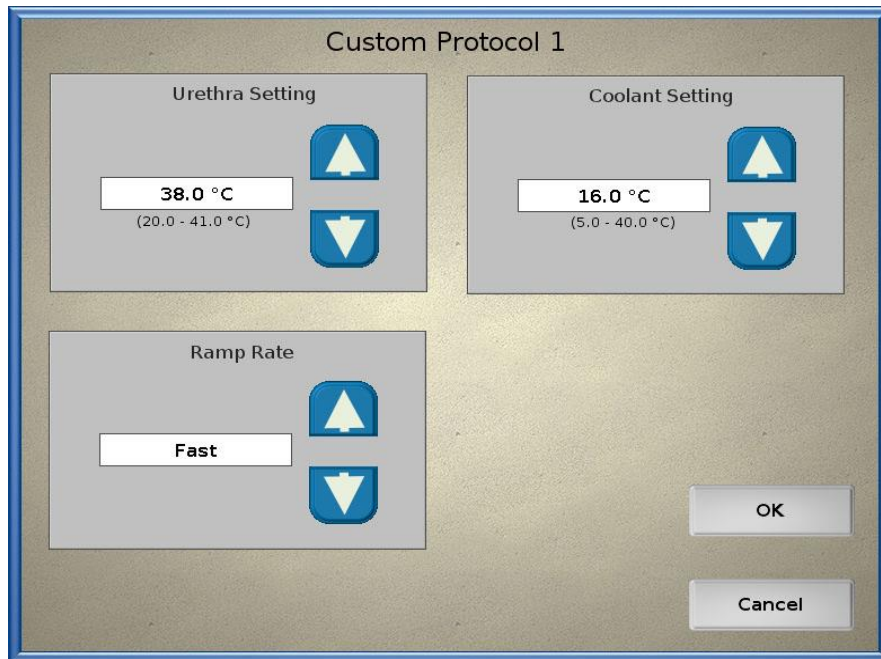

Figure 3-21. Example of treatment protocol - modify
6. Adjust the urethra setting, coolant setting, and ramp rate (Figure 3-21), as desired: